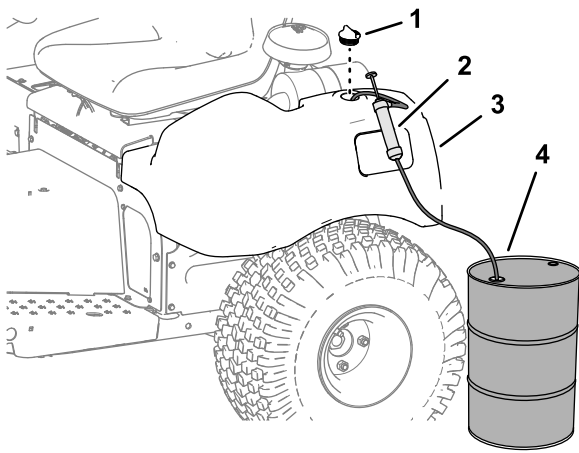

Figure 43
1. Remove the cap from the hydraulic reservoir (Figure 43).
2. Pump the hydraulic fluid from hydraulic reservoir (Figure 43).